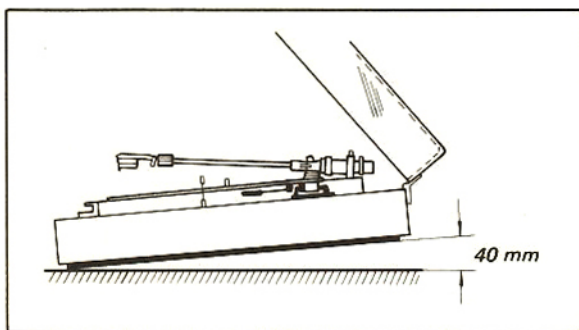

Fig. 3-4. Lateral balance adjustment
4. Slide the lateral balance weight towards the same direction as the tonearm movement until lateral balance is obtained. (See Fig. 3-4).